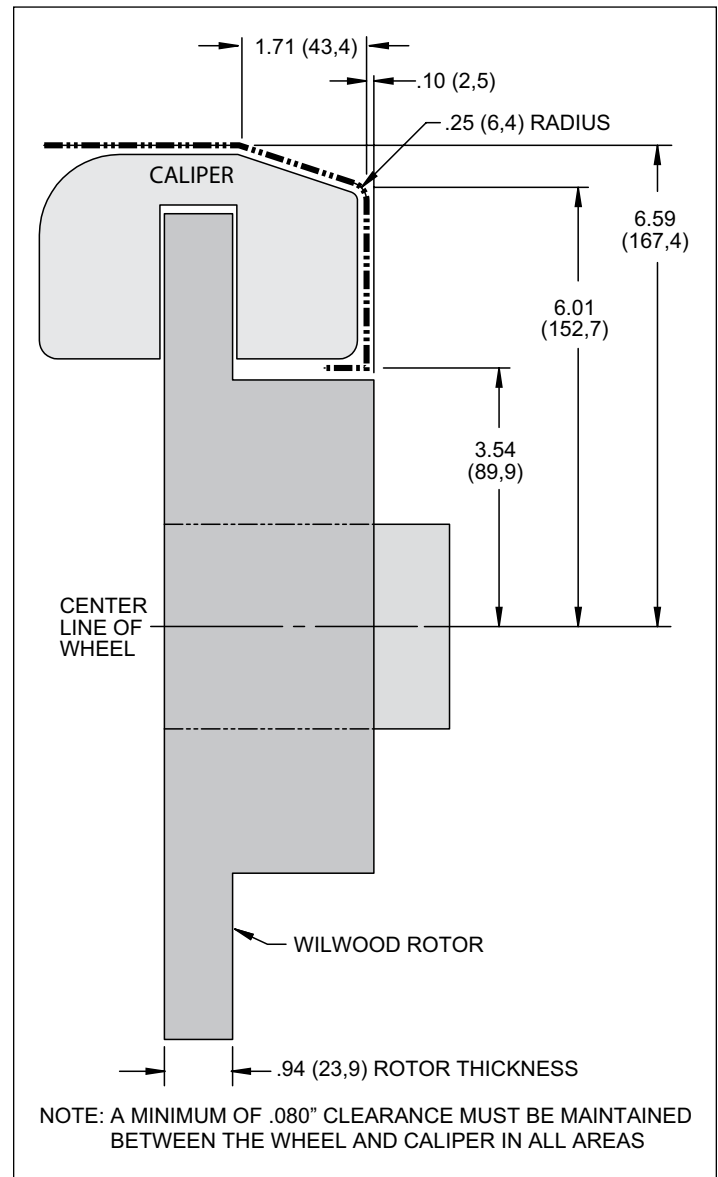

Figure 3. Wheel Clearance Diagram
- Review the Wheel Clearance Diagram (Figure 3, page 3) to verify that there is adequate clearance with the wheels you will be using with the installation.
- Verify wheel clearance using Figure 3.